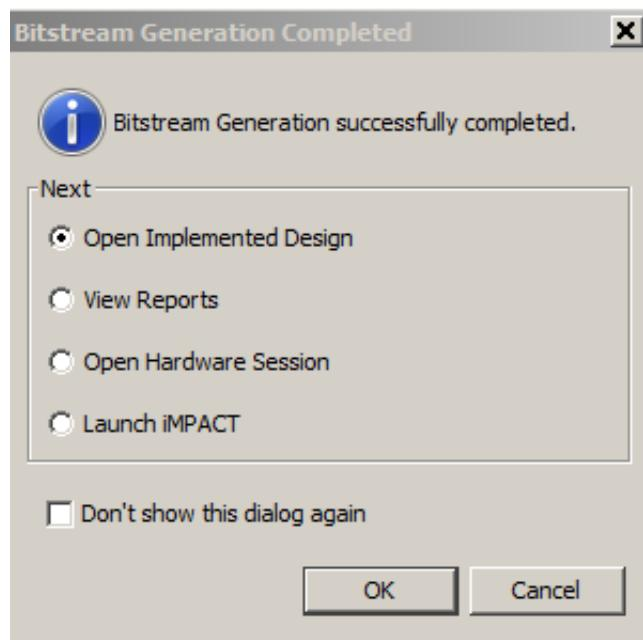

Figure 6: Bitstream Generation Completed
8. When the **Bitstream Generation Completed** opens, click **Cancel** to return to the Vivado GUI (Figure 6).